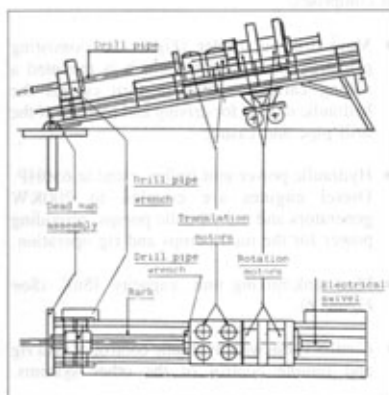

Figure 5. Drilling rig
- Main drill rig trailer (Figure 5), consisting primarily of a ramp on which is mounted a rolling carriage which in turn carries the hydraulic motors for driving and rotation of the drill pipe and casing.